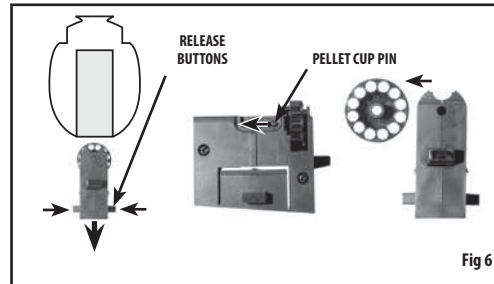

Fig 6
- Slide the pellet clip pin forward and remove the pellet clip from the side of the pellet magazine. (Fig. 6)